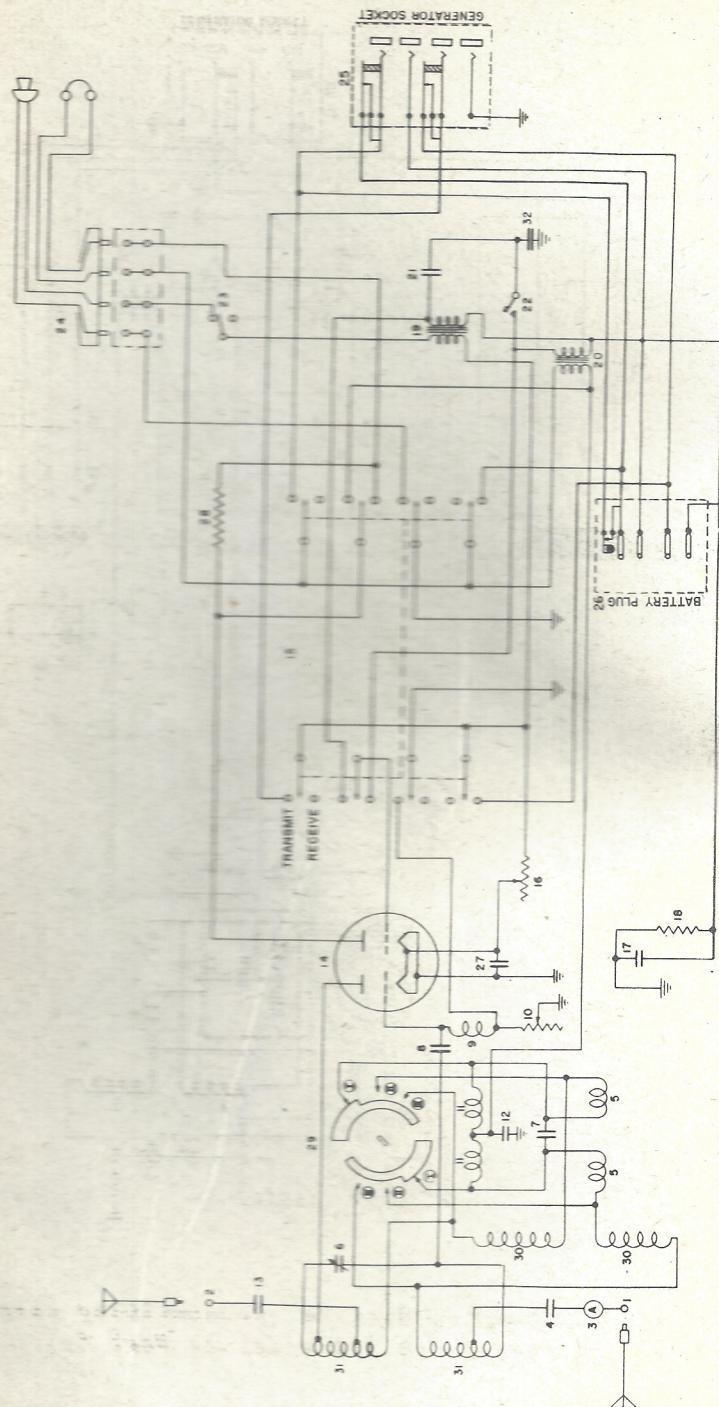

Figure 20. Schematic diagram, Japanese Radio Set Model 94 Mark 6.
(1) Check all cords, plugs, and switches to make sure they are in good order and in proper positions.
(2) If a battery pack is used for any part of the power requirements of the set, check and replace component batteries if necessary.
(3) Replace the tube. For this operation see subparagraph **b** below.
d. **Schematic Diagrams.** Three schematic diagrams are shown in figures 20, 21, and 22.